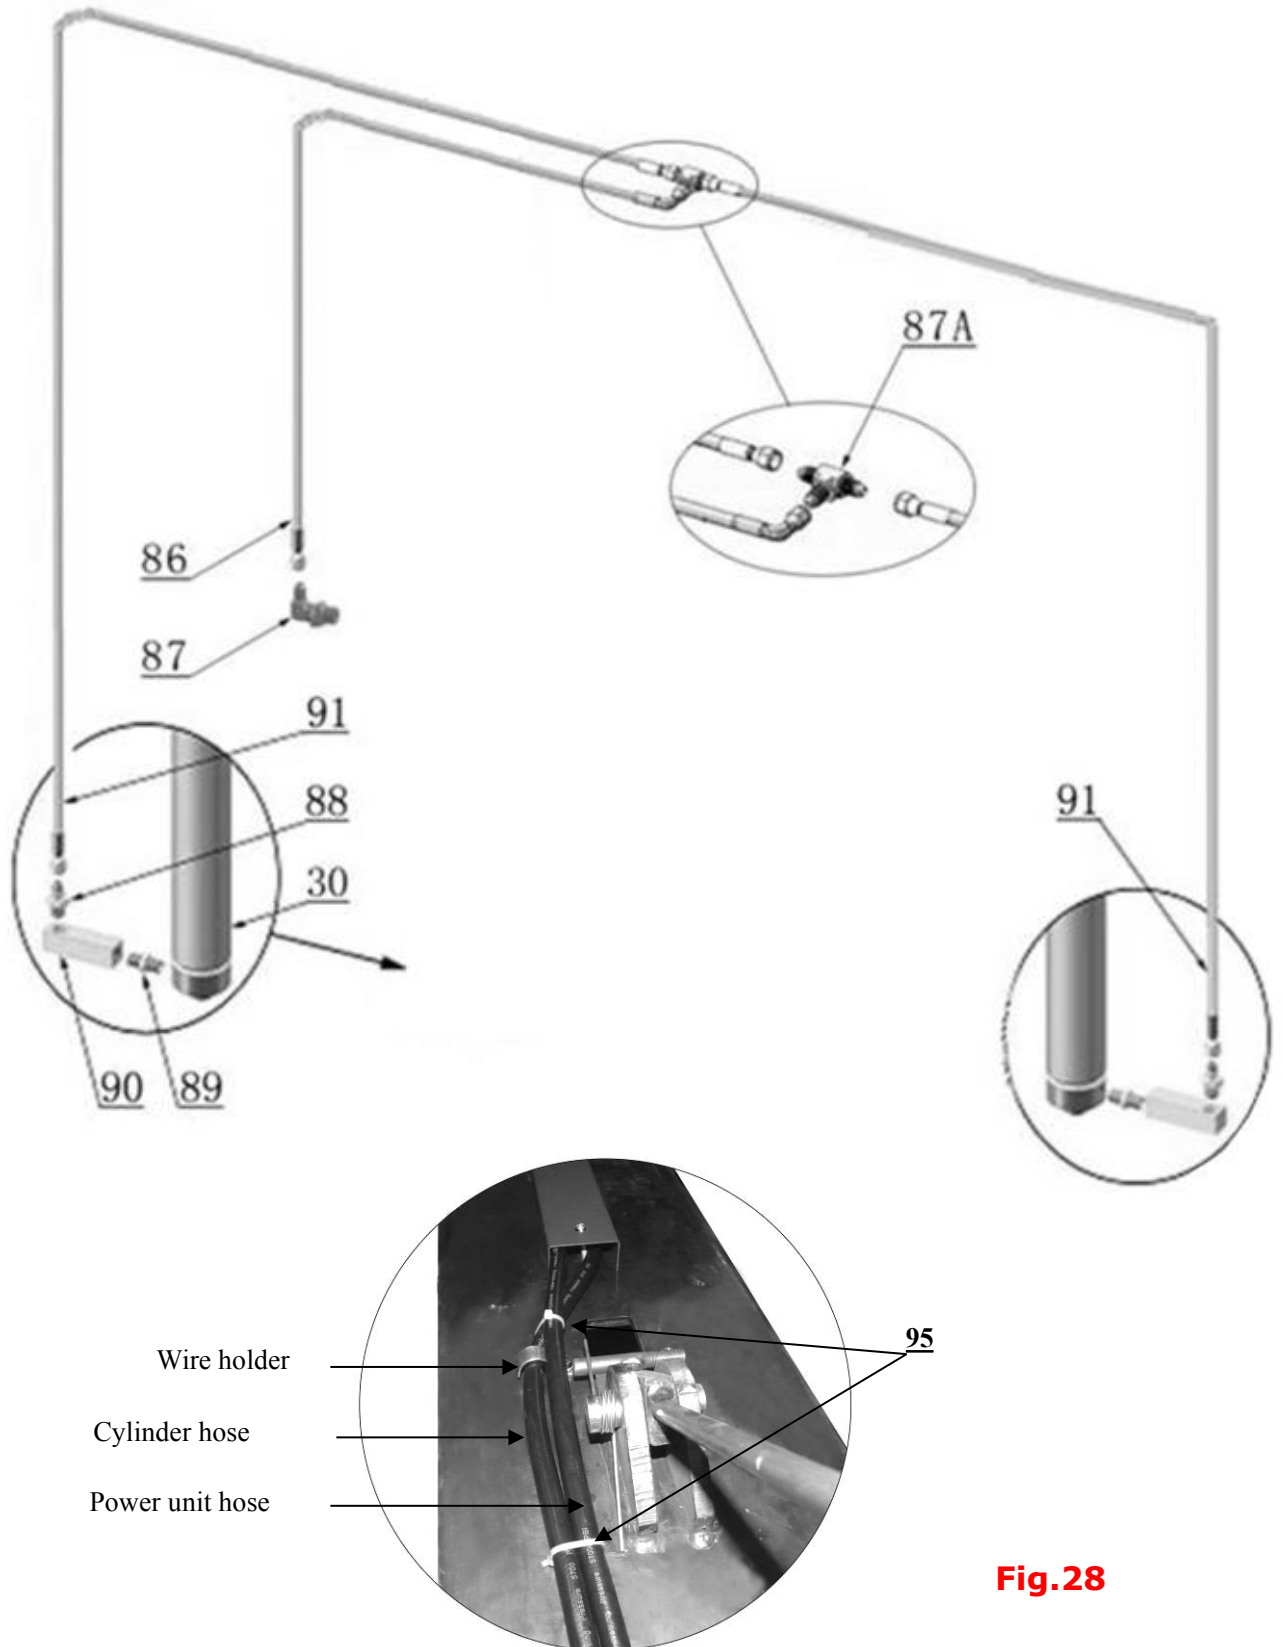

Fig.28
L. Install oil hose. (See Fig. 28).